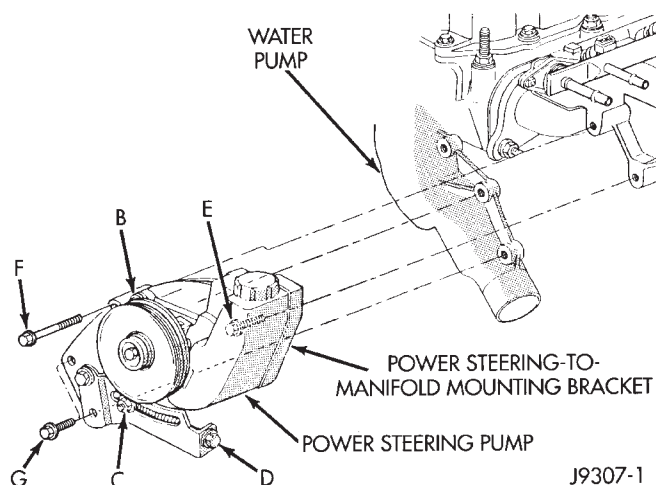

Fig. 6 Bracket Mounting Bolts—4.0L Engine
(6) The power steering pump must be removed from its cast mounting bracket to gain access to bolt E. Bracket mounting bolt E is located behind the power steering pump (Fig. 6).
(10) Remove bolts E, F and G (Fig. 6) and remove pump mounting bracket.
(11) Remove idler pulley mounting bolt and remove idler pulley. This must be done to gain clearance for the water pump mounted heater hose fitting when water pump is being removed.
(8) Position power steering pump bracket to engine. Install bolts E, F and G (Fig. 6). Tighten bolts F and G to 38 N•m (28 ft. lbs.) torque. Tighten bolt E to 27 N•m (20 ft. lbs.) torque.